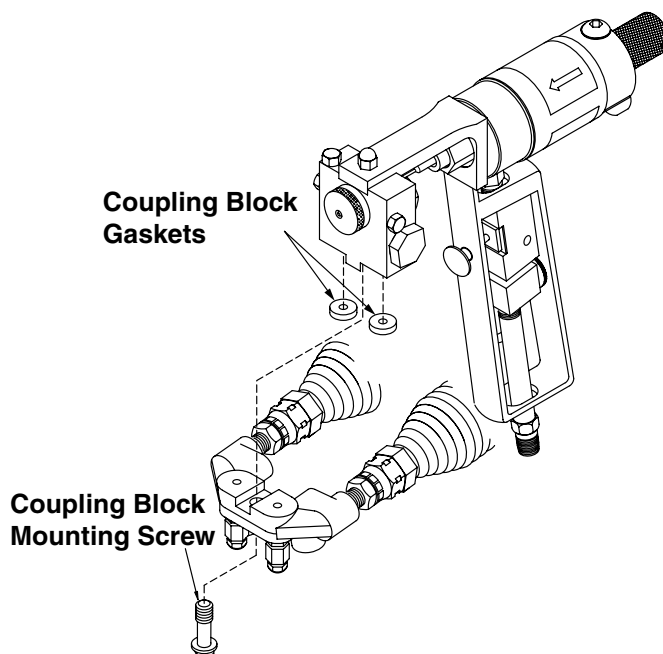

FIG. 3: Coupling Block
3. Remove coupling block mounting screw (FIG. 3).